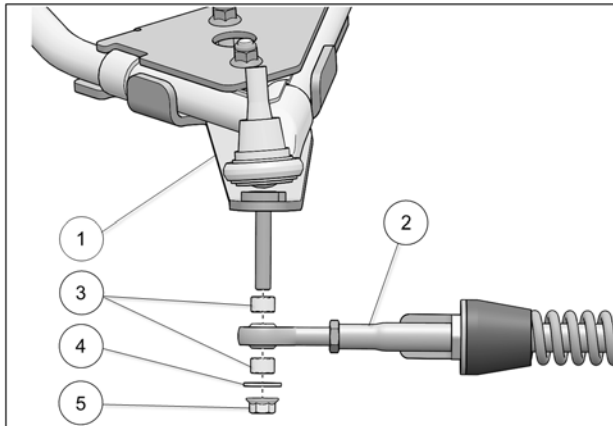

Fig. 19
9. Attach the stabilizing rod (2) to the anchor bracket (1), using the two spacer bushings (3), washer (4), and nut (5). Torque to 70 N•m [52 lb•ft]. See Fig. 19